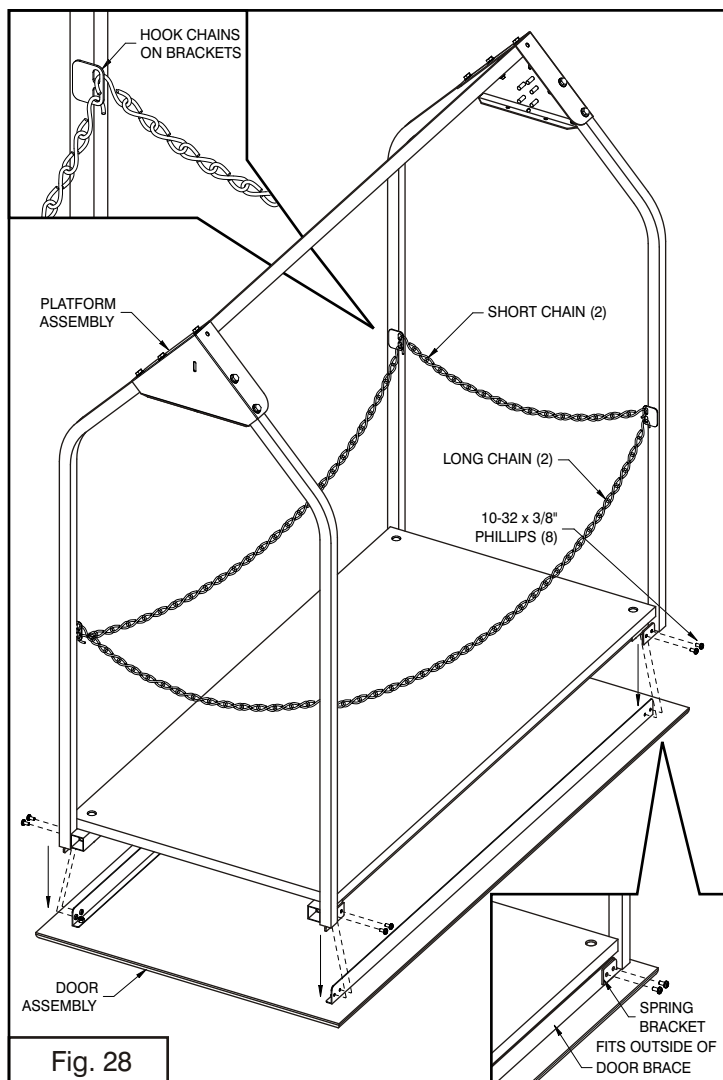

Fig. 28
7-1. Locate the (8) 10-32 x 3/8" screws. Lift the platform assembly onto the door assembly (Fig. 28).
Note: The spring brackets on the end of the platform legs fit outside of the door braces (Fig. 28 inset).
7-3. Locate the short and long chains. The last link on each end of each chain is open to form a hook. Hook the end of each chain onto the chain brackets on each platform leg (Fig. 28 and inset). You can open the hook further with pliers, if needed, to make it easier to hook.